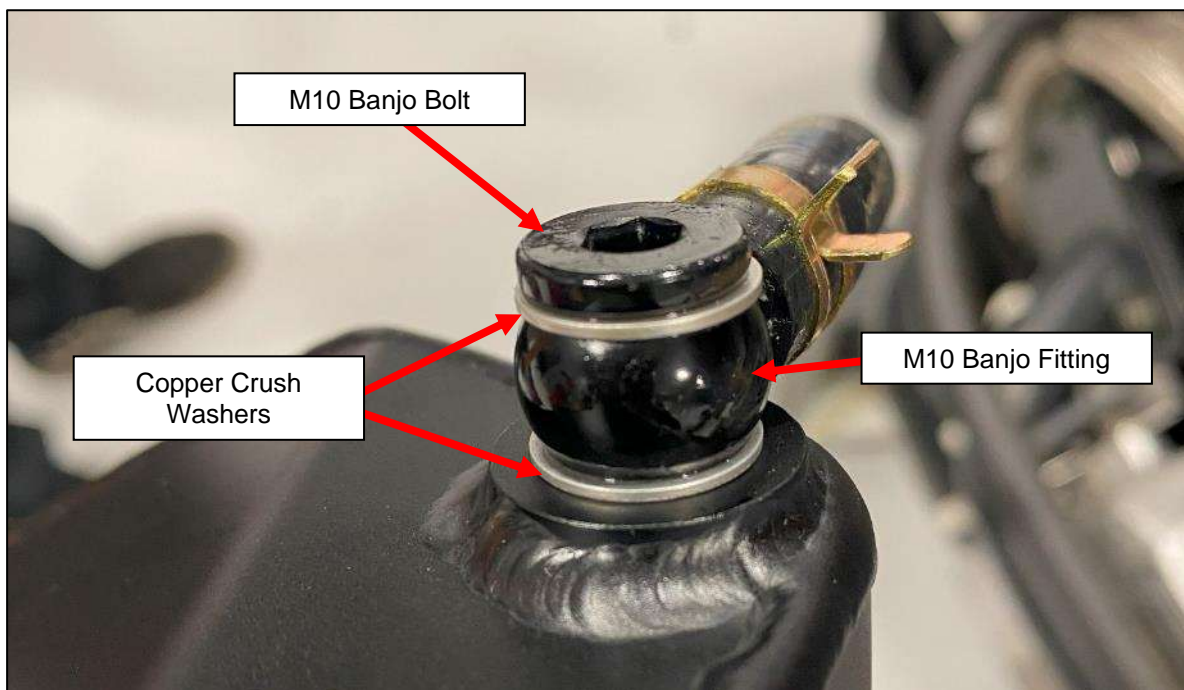

Figure 63
5. Locate (2) two 10mm Copper Crush Washers (#30), the M10 Banjo Bolt (#12), the M10 Banjo Fitting (#11), and the Coolant Reservoir. Install the Banjo Bolt through the Banjo Fitting with a Crush Washer on each side of the Banjo Fitting to the bottom of the Coolant Overflow Tank. Loosely tighten the bolt so that it can still be adjusted. *Figure 63*.
NOTE: *Figure 63* below shows Aluminum Crush Washers. The installation process is still the same.